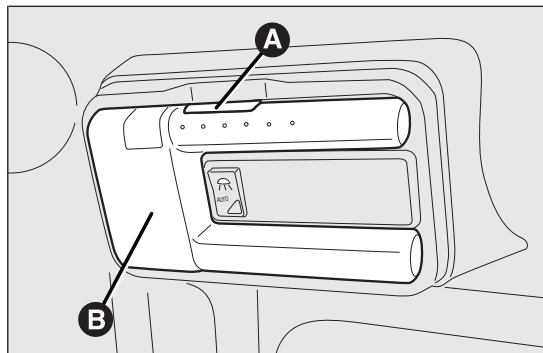

fig. 154
- ☐ press button A fig. 154 and extract the removable ceiling light B;